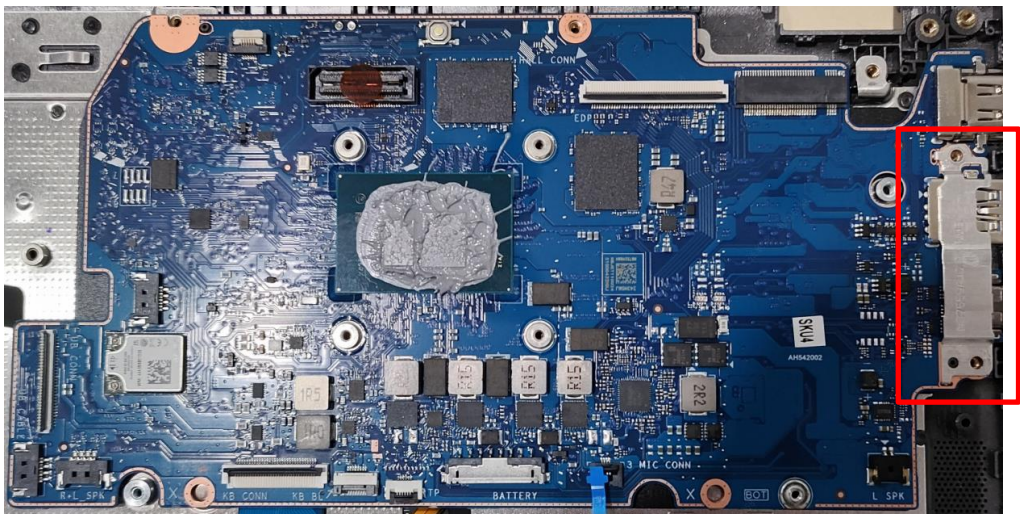

Figure 3-33. Mainboard Removal
2. Remove MB IO BKT (Figure 3-33).